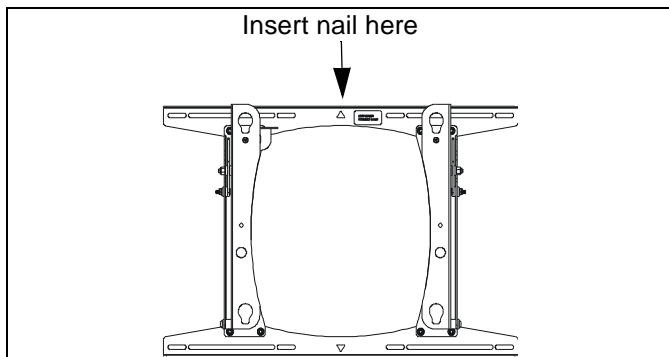

Figure 1
3. With mount at desired height and located between the marked studs, temporarily hang mount on wall by installing a nail through the triangular hole located in the center of the mount (See Figure 1). Ensure mount is oriented such that pitch adjustment arms are at top of mount.